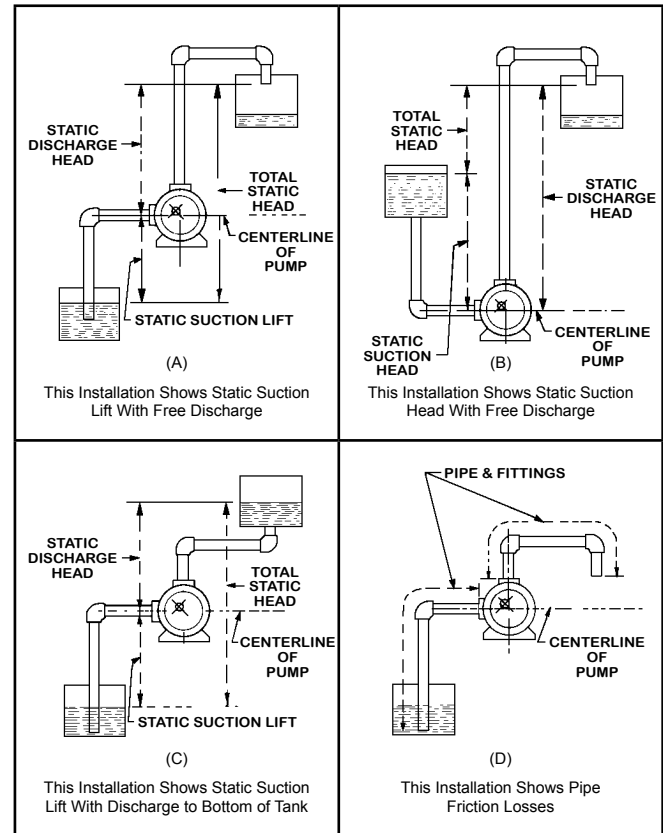

FIG. 2 - Installations Showing Various Suction and Discharge Conditions
Static Suction Lift — is the vertical distance in feet (expressed in psi) between the liquid level of the source of supply and the centerline of the pump when the pump is located *above* the liquid level of the source of supply. See Figure 2, (A).
Static Suction Head — is the vertical distance in feet (expressed in psi) between the liquid level of the source of supply and the centerline of the pump when the pump is located *below* the liquid level of the source of supply. See Figure 2, (B).
Friction Head — is the pressure (expressed in psi) required to overcome frictional resistance of a piping system to a liquid flowing through it. See Figure 2, (D).
Static Discharge Head — is the vertical distance in feet (expressed in psi) between the centerline of the pump and the point of free delivery of the liquid. See Figure 2, (A), (B), and (C).
Total Static Head — is the sum of the static suction lift and the static discharge head or the difference between the static discharge head and the static suction head. See Figure 2, (A), (B) and (C).